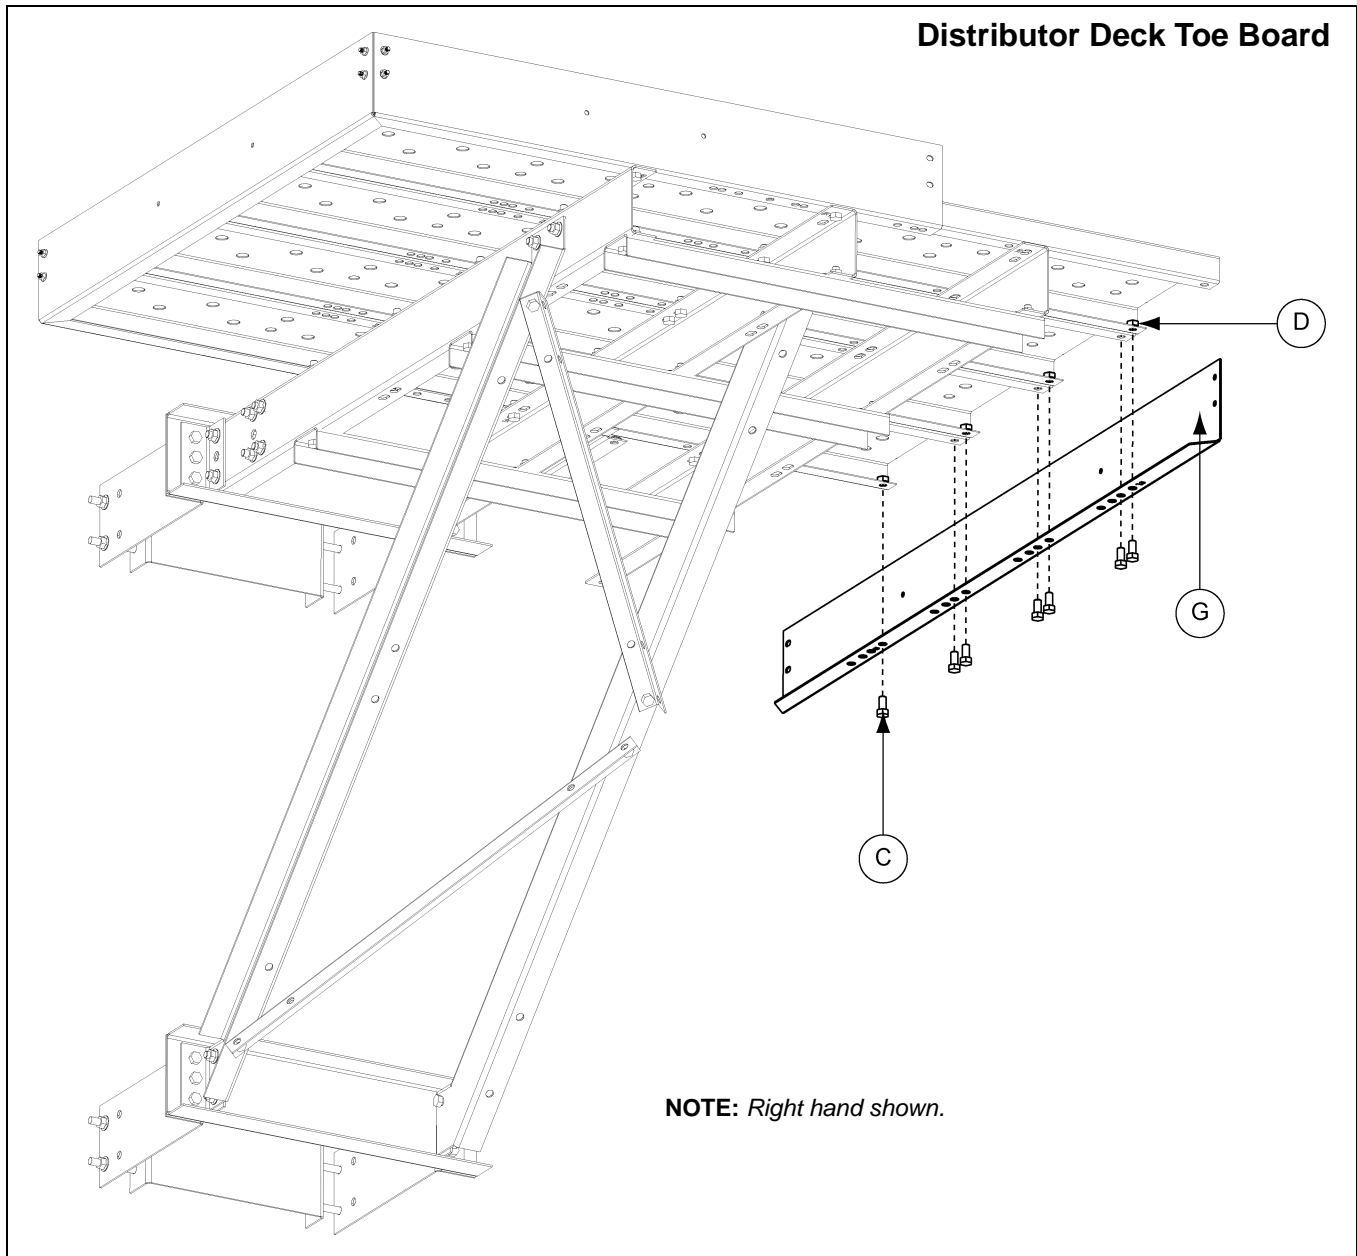

Figure 12F *Distributor Platform Toe Board*
3. Attach the flange of the toe board short side to the bottom of the 18" decking using two (2) 1/2" x 1" bolt (S-7935) (C) and nuts (S-8506) (D). Then attach 18" decking to the external platform support (DSP1648EPS) (B) using one 1/2" x 1" bolt (S-7935) (C) and nut (S-8506) (D). *(See Figure 12F on Page 99.)*